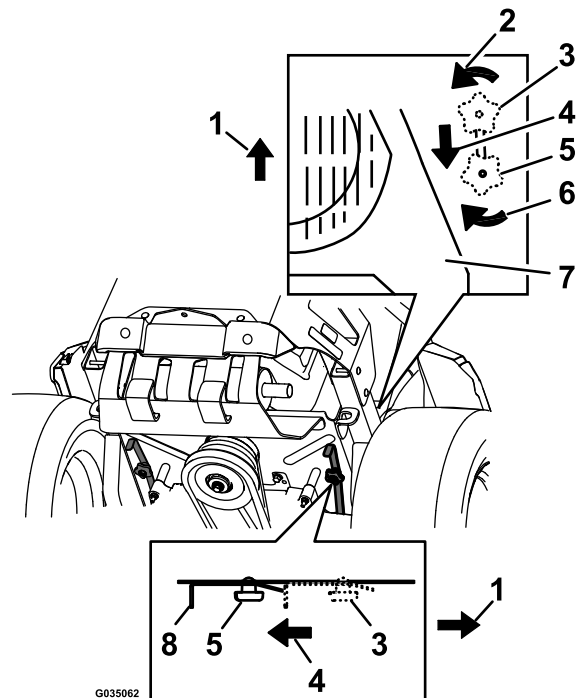

Figure 39
4. To push the machine, move both bypass knobs rearward and lock them into place (Figure 39).
- To run the machine, move the bypass knobs to the FORWARD position and lock them into place (Figure 39).